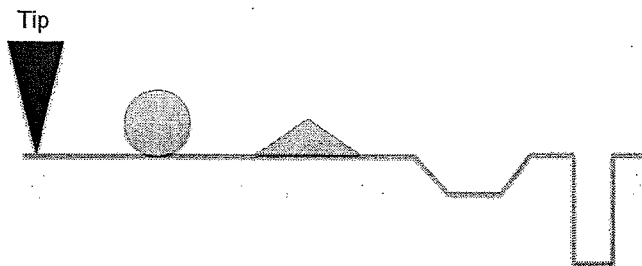

Fig. 2.
- Draw the path of the AFM tip apex as it is scanned across the different features on the surface in Fig. 2. (0.5p)